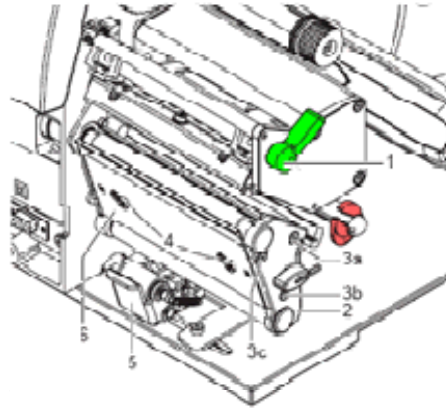

Figure 6
1. Pull print roller (7) and rewind assist roller (8) from the shafts (9, 10) on the housing.
3. Slide print roller (7) and rewind assist roller (8) onto their respective shafts and turn slightly until the hexagon of the shaft engages in the hexagon socket of the print roller.
4. Set side plate (2, Figure 6) in place and screw it down with the screws (3a, b, c, Figure 6) by tightening the screws in order a-b-c..
5. Set plate (6, Figure 6) in place and tighten screws (4, Figure 6) with hexagonal wrench.